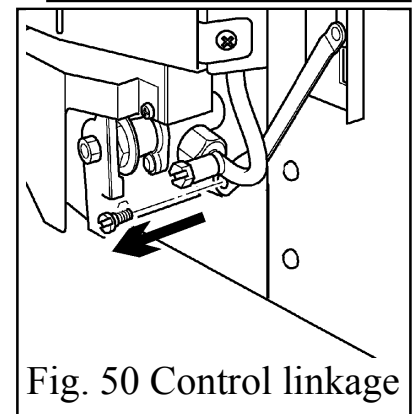

Fig. 50 Control linkage
3. Disconnect the control linkage by removing the knurled screw which connects the control linking bar with the control pivot unit. See figure 50.